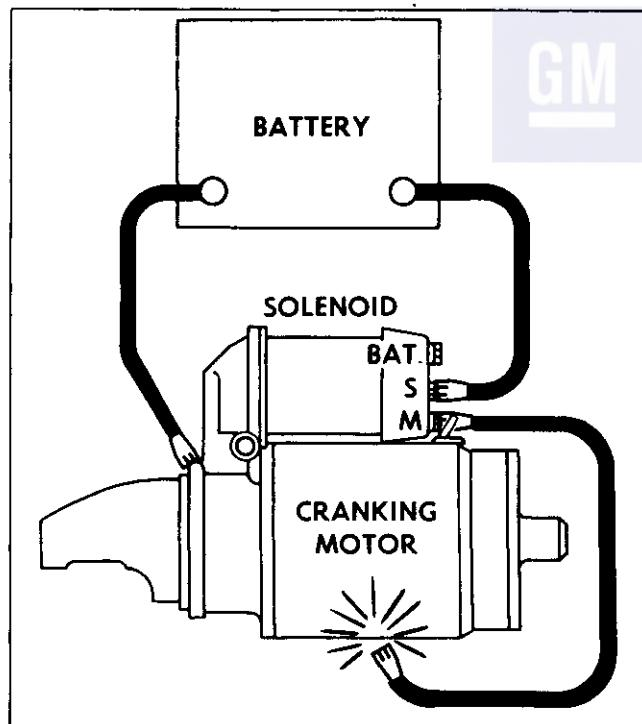

Fig. 6E-9 Circuit For Checking Pinion Clearance
- Connect one battery lead to the solenoid switch terminal and the other to the solenoid frame (Fig. 6E-9).